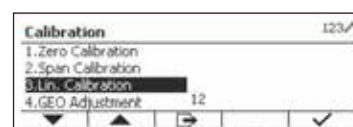

Figure 19
- Exit Linearity Calibration by pressing the softkey corresponding to the ✓ icon. (See Figure 19)